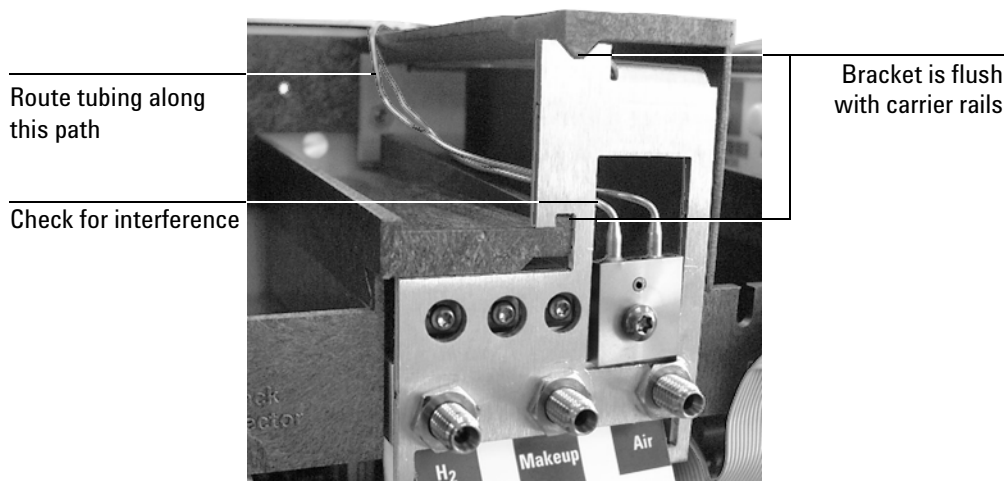

Figure 2. Manifold, after installation
2. Route the ribbon cable behind the manifold assembly as shown in Figure 1. Then, slide the manifold and bracket assembly into the slot until the bracket seats flush against the end of the rails. See Figure 2.